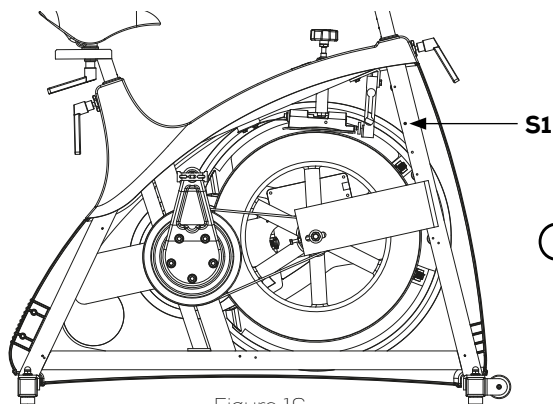

Figure 16
2) Adjust the 5x6mm pinion screw, marked S1 by using a 2.5 mm Allen wrench, see figure 16.